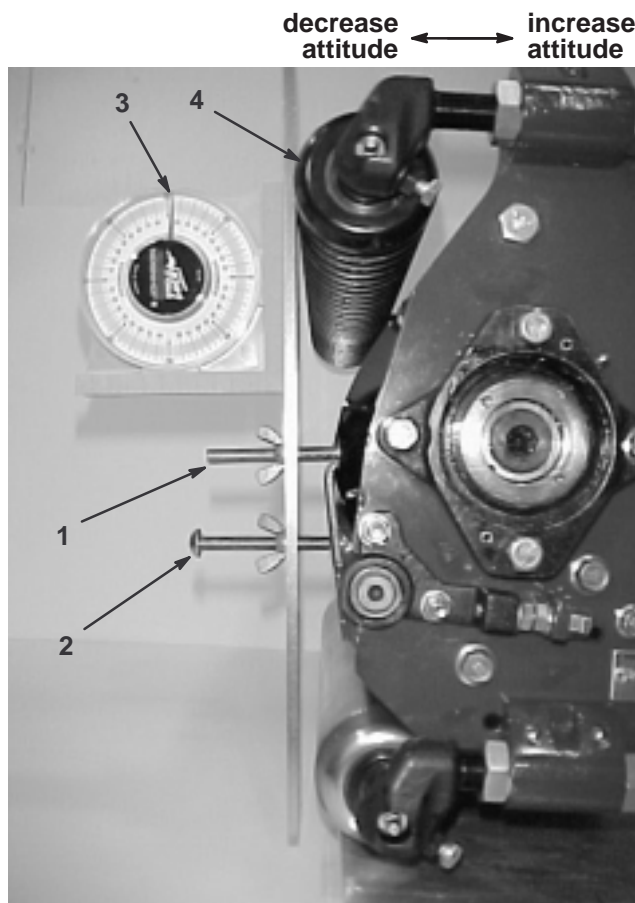

Figure 10
4. Place the gauge bar across front and rear rollers. The first screw head needs to fit snugly over edge of the bedknife, while the gauge bar contacts the front roller (Fig. 10).
6. Place an angle indicator on the gauge bar and record the gauge bar angle (Fig. 10).
Note: Moving the front roller down will decrease your cutting unit attitude, while moving the front roller up will increase cutting unit attitude (Fig. 10).